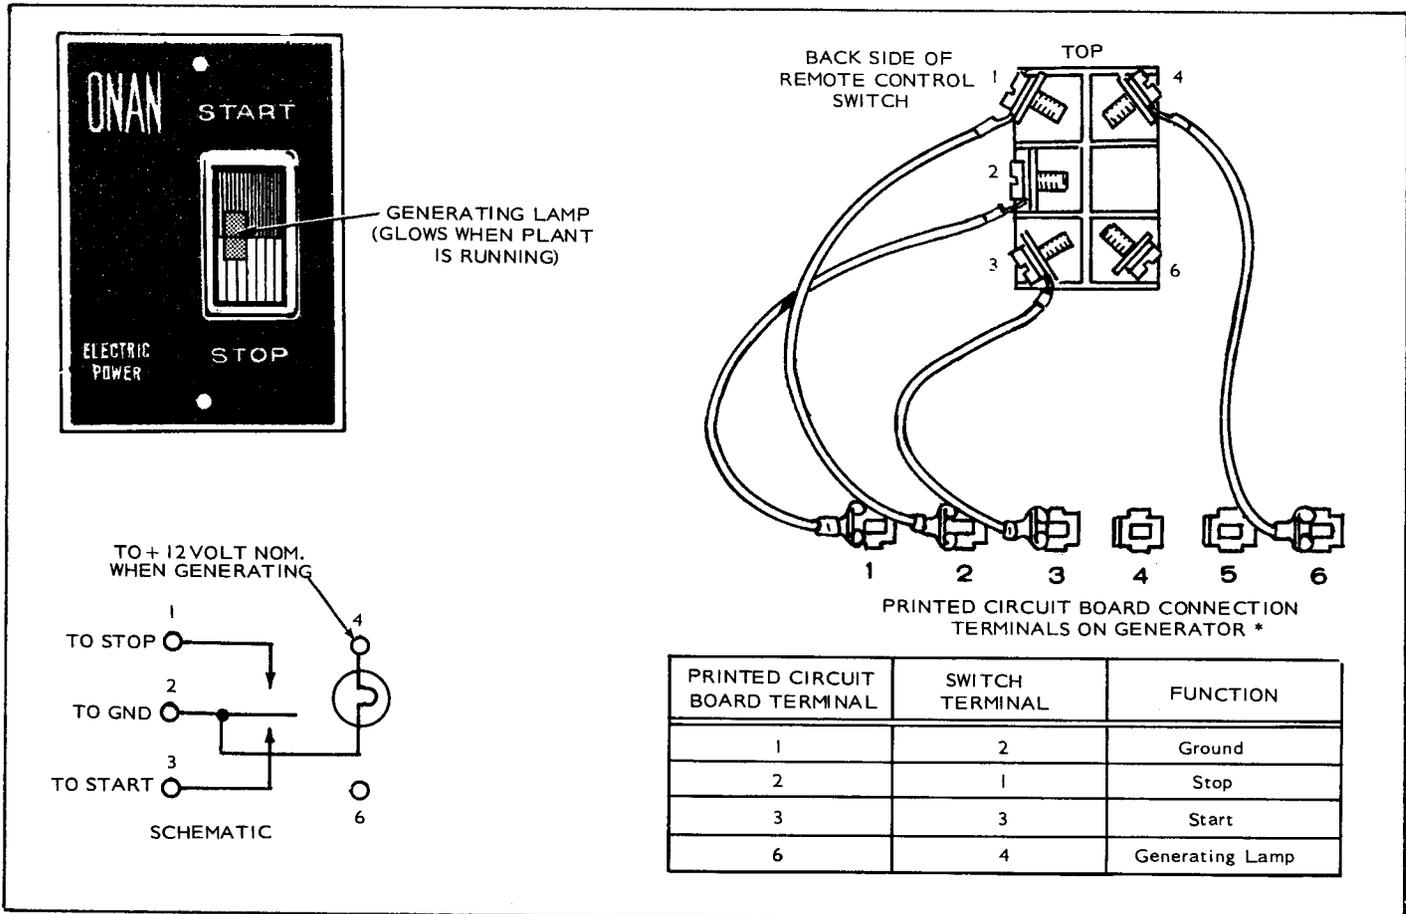

FIGURE 6. REMOTE CONTROL SWITCH (300-0985)
3. Connect leads from printed circuit board terminals to remote control terminals as shown in Figure 6.
**NOTE:** Terminal numbers are stamped on the back of remote control panel. Figure 6 schematic shows actual layout of terminals looking at the rear of remote control switch.